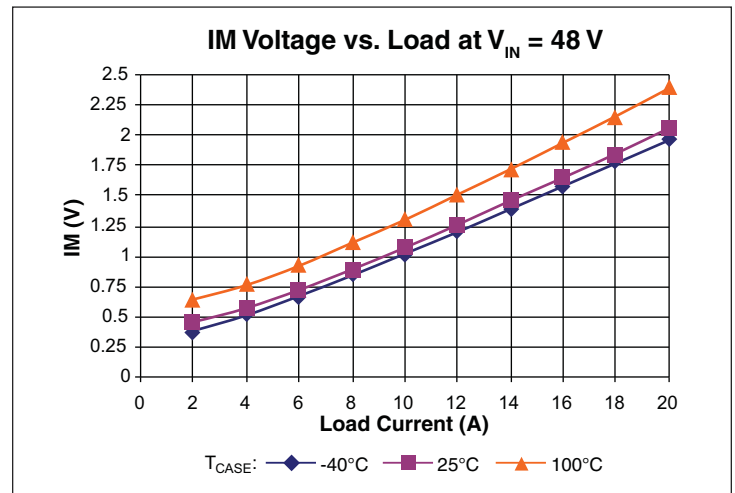

Figure 8 — IM voltage vs. load
Current Monitor (IM) pin provides a voltage proportional to the output current of the VTM module. The nominal voltage will vary between 0.41 V and 1.98 V over the output current range of the module (See Figures 8–10). The accuracy of the IM pin will be within 25% under all line and temperature conditions between 50% and 100% load.